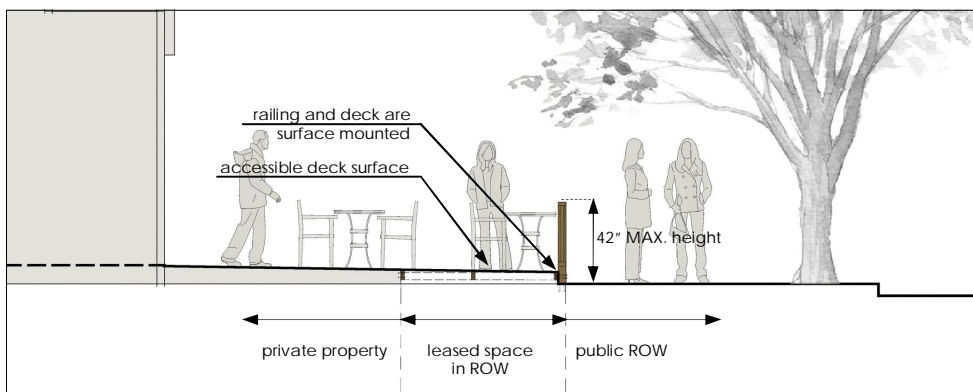

Figure 3.3
**Elevation Change & Accessibility** Where finished floor elevations of businesses are higher than the sidewalk, accessibility to building entrances and raised dining areas can be provided using ramps that are surface mounted to the sidewalk. All ramps, stairs, and handrails must meet ADA standards. Total enclosure height as measured from the sidewalk is limited to 42". See Figure 3.3.
- be 42" tall. For establishments that have raised dining areas (see Figure 3.3), the required height includes the height of the deck.